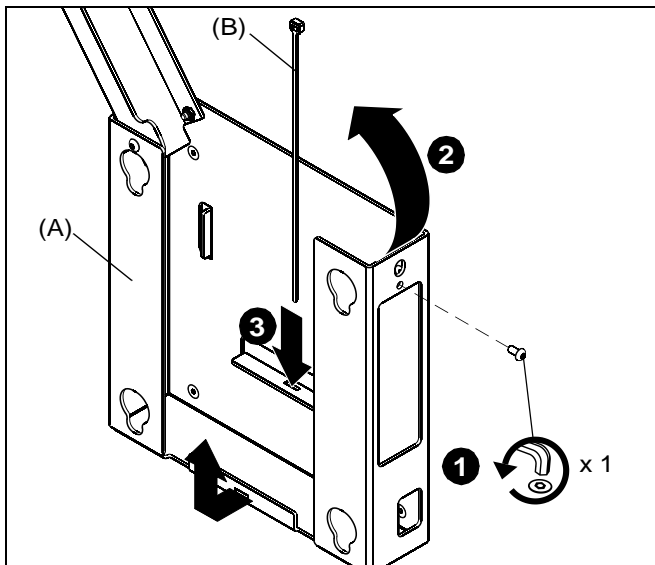

Figure 1
1. Remove one button head security screw from CPU holder (A). (See Figure 1)
2. Open top of CPU holder. (See Figure 1)
3. Add cable tie (B) to CPU holder. (See Figure 1)